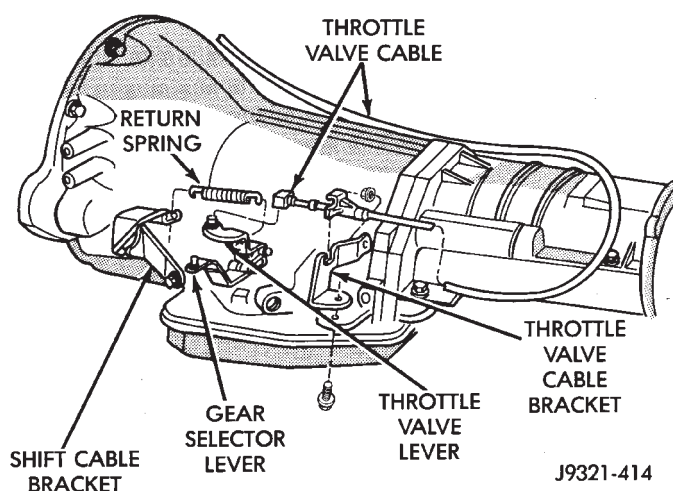

Fig. 3 Throttle Cable Attachment At Transmission
- (1) Turn ignition key to OFF position.
- (2) Remove air cleaner.
- (3) Verify that lever on throttle body is at curb idle position. Then verify that transmission throttle lever (Fig. 3) is also at idle (fully forward) position.